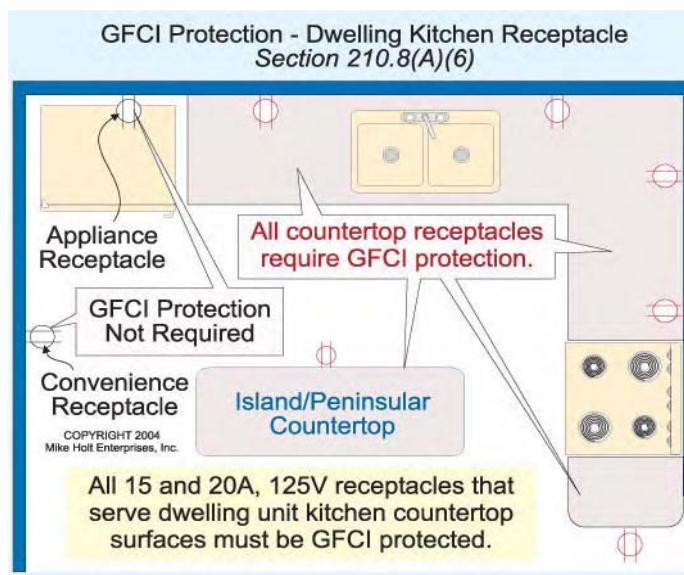

Figure 210-20
(6) Kitchen Countertop Surface. GFCI protection is required for all 15 and 20A, 125V receptacles that serve countertop surfaces in a dwelling unit. See 210.52(C) for the location requirements of countertop receptacles. **Figure 210-20**